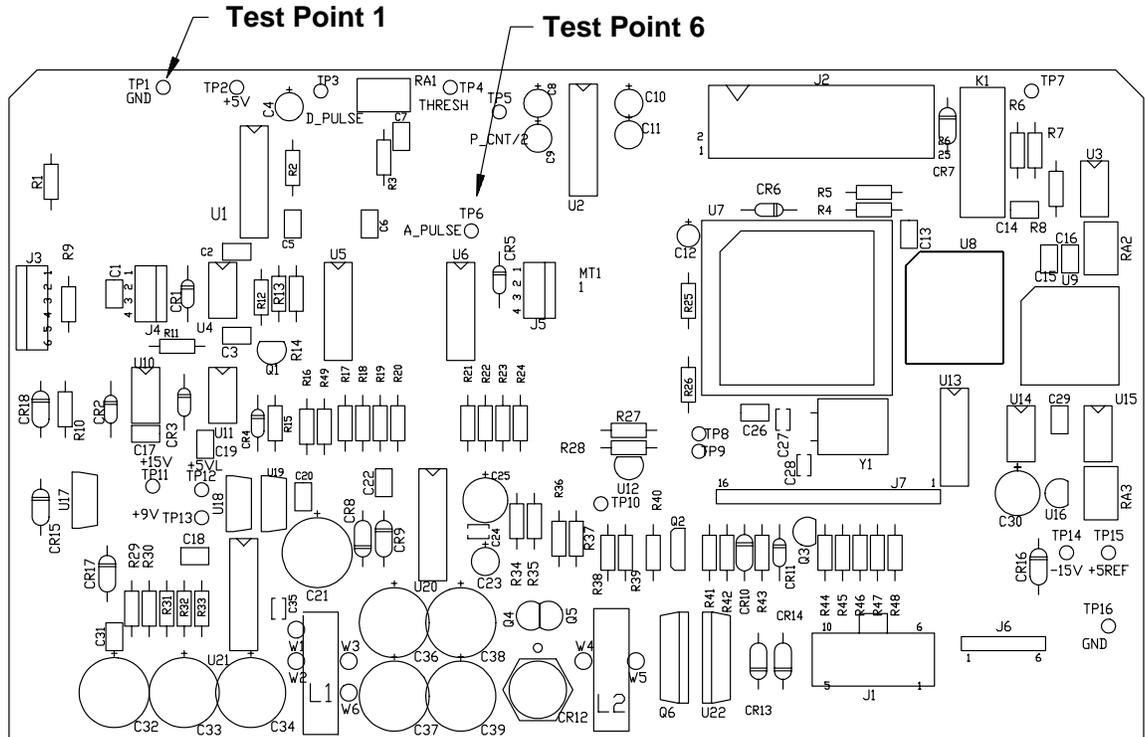

Figure 6-1
- Using Figure 6-1 as a reference, connect the ground lead of an oscilloscope to test point 1 (TP1) on the main PC board (attached to the front panel) and the main lead of the oscilloscope to test point 6 (TP6).